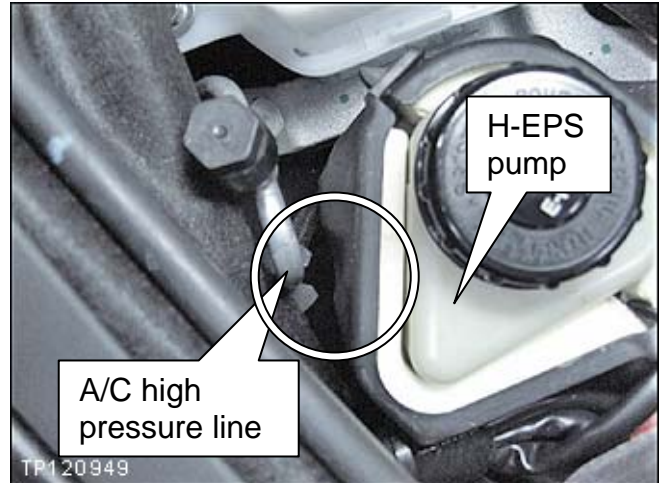

Figure 7
- Check the location circled in Figure 7.